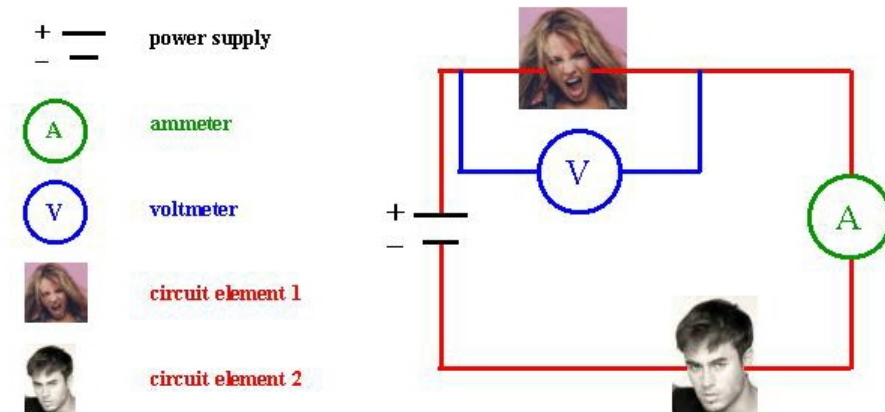

FIG. 5: The experimental circuit
1. Assemble the circuit shown in figure 5.